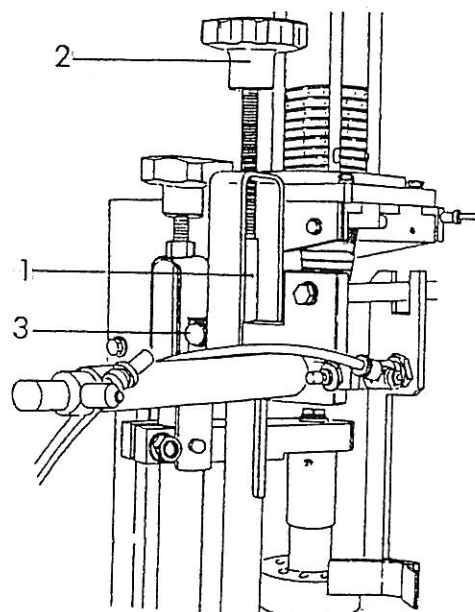

Fig.10.1.16
- Adjust the height of the unit using knob 2 and lock with screws 3 fig. 10.1.16;